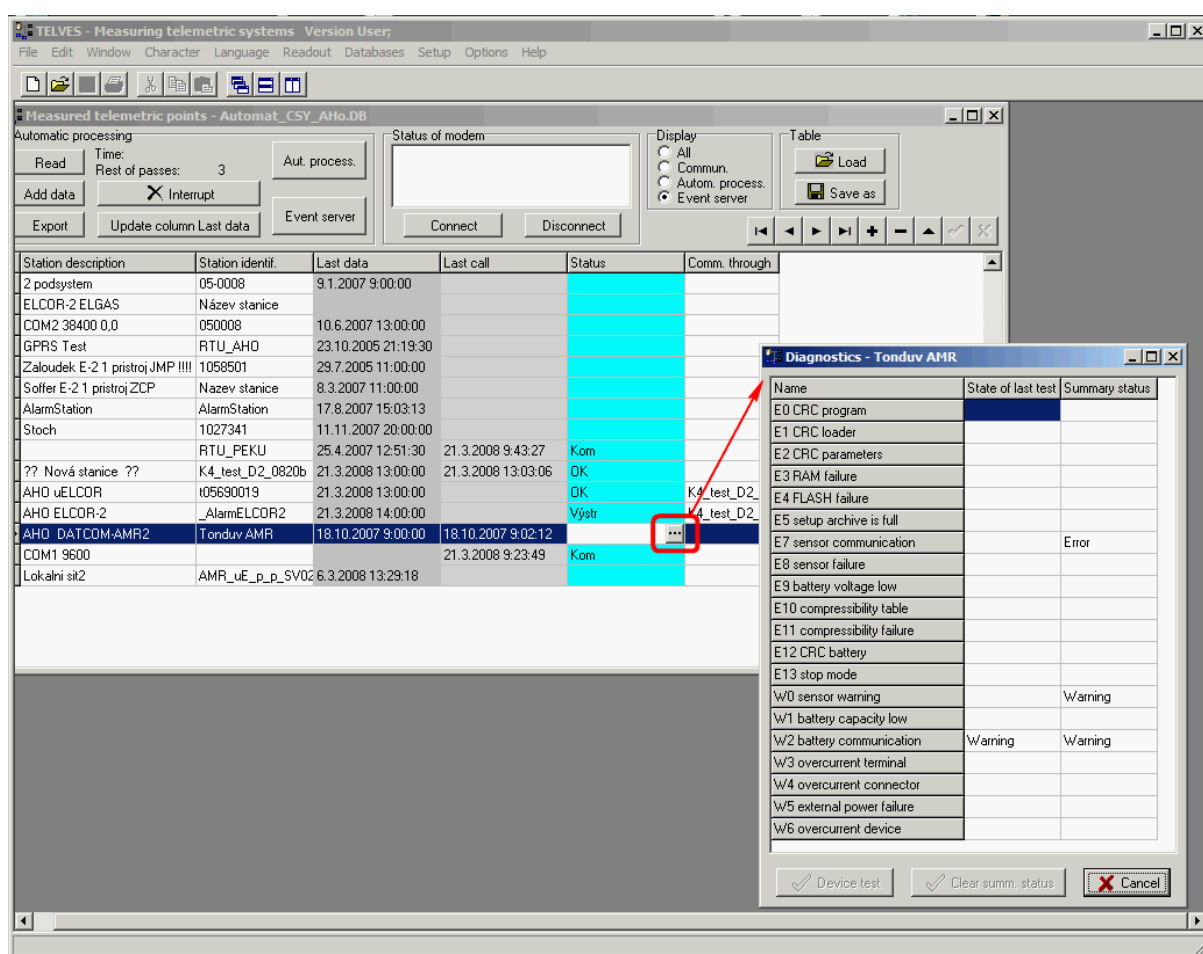

Fig. 77 Diagnostics information of the device being read
- It can be easily determined from the tables of Measured Telemetric Points (in the Server Events part) by opening the window containing the diagnostics read-out from the device. Clicking on the field **Status** on the line identifying the device, a second click in the right hand side of the field will show three points and another click will open the diagnostics window – see Fig. 77.